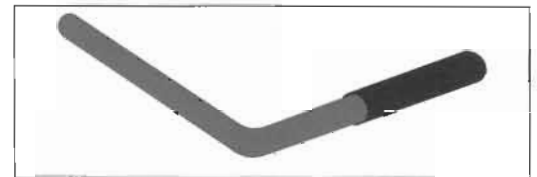

Figure 3
1. Set the upper-body exerciser pin (Figure 3) near the front of the Total Body Treadmill.